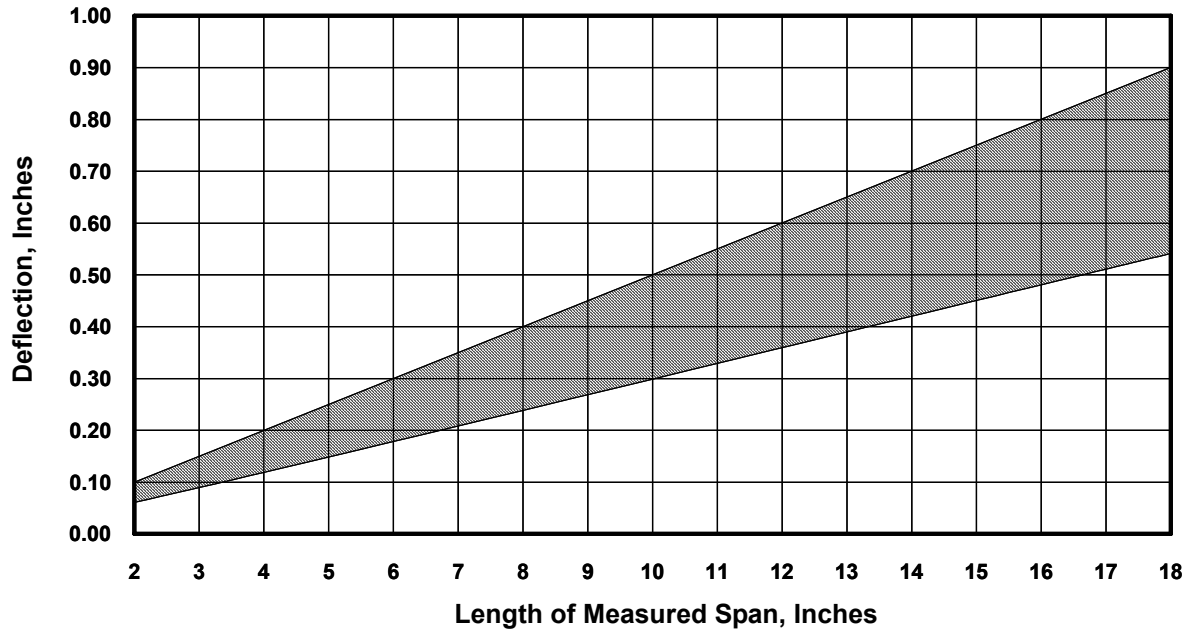
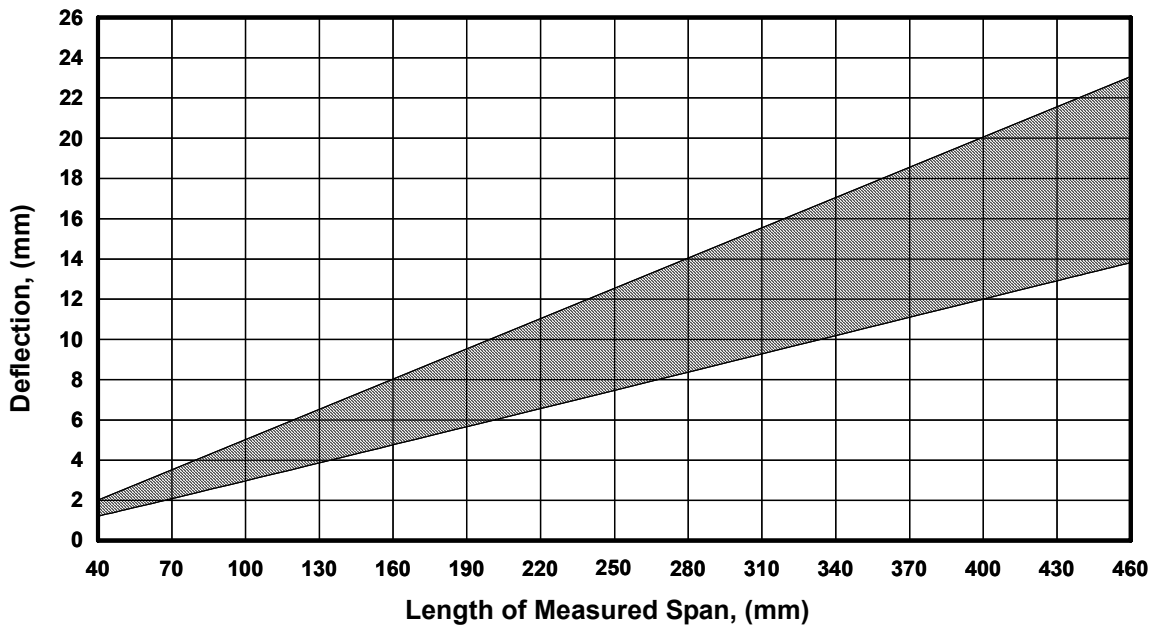

FIGURE 5-18: ALLOWABLE CHAIN DEFLECTION, INCHES
FIGURE 5-19: ALLOWABLE CHAIN DEFLECTION, (MILLIMETERS)
2. Measure the length of the longest most easily accessible span with a tape measure (sprocket center to center), where the deflection will be gauged. Determine the allowable deflection limits defined by the shaded areas in Figure 5-18: or Figure 5-19:, for the measured span (3 to 5% of the span).